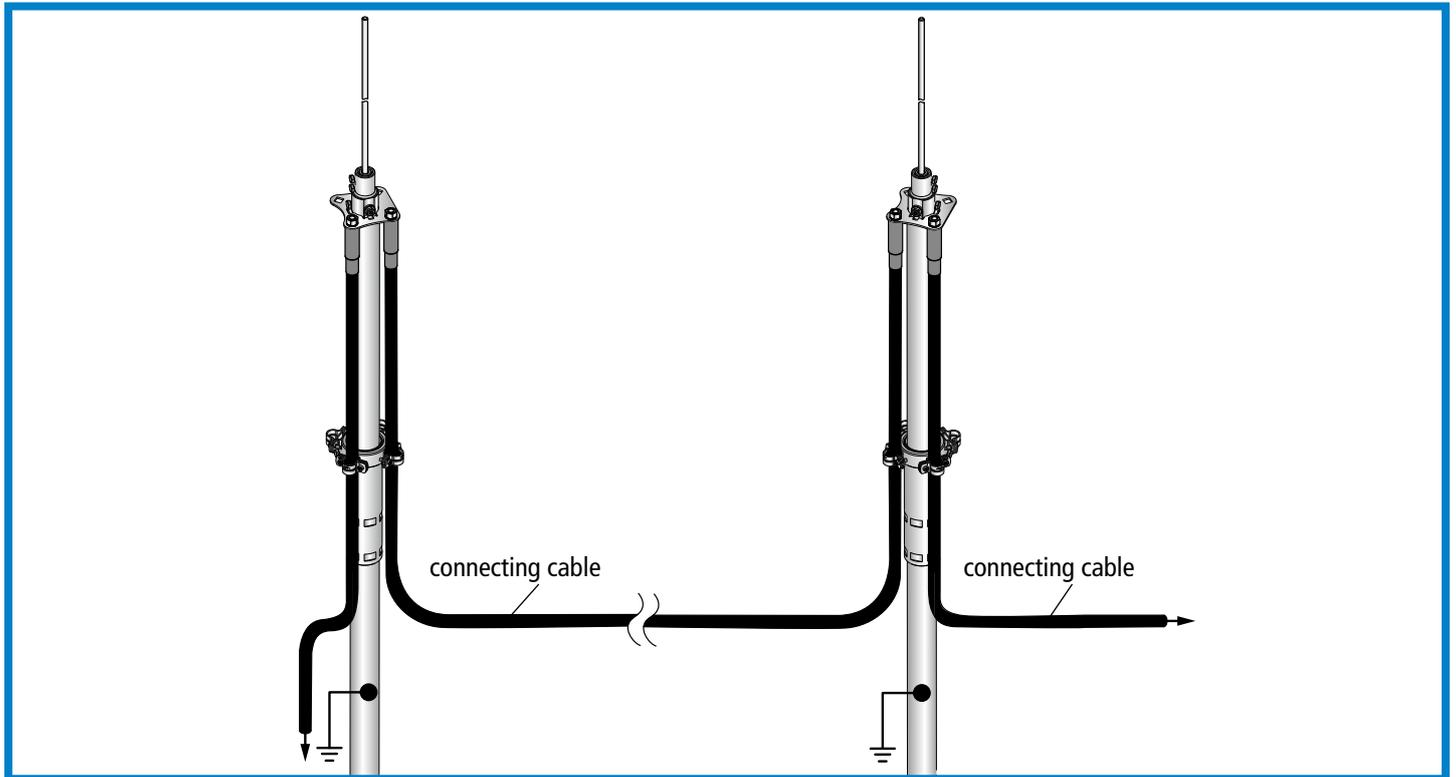

Figure 11 Connecting cable between the supporting tubes
- ➔ As shown in Fig. 11, the connecting cable between the supporting tubes improves the partitioning coefficient k_c similar to a ring conductor, thus reducing or maintaining the necessary separation distance "s". Connection elements, e.g. Part No. 819 197 or 819 196, are used for the connections (installation outside the supporting tube).